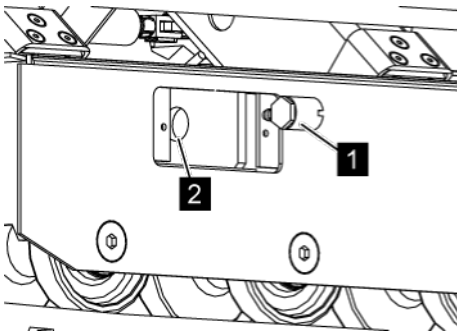

Fig. 152: Pulling out the slide coupling
8. ➤ Turn the slide coupling (Fig. 152/1) back by 180° anti-clockwise and pull it out of the grease tension cylinder (Fig. 152/2).